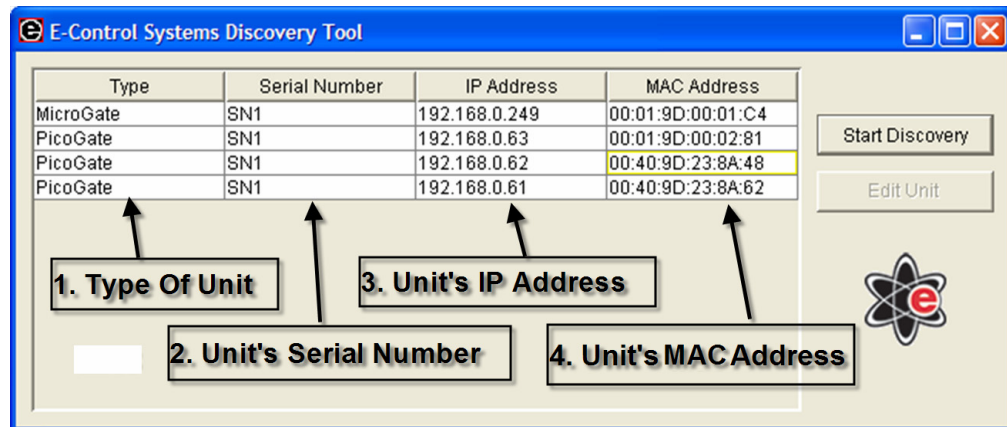

Figure 5
3. A list of all of the ECS units on the network is listed sorted by their MAC Address (see **Figure 5**, note #4). Find the MAC address of the MicroGate™ that you want to configure (the MAC address is shown on a white label on the underside of the MicroGate™). Highlight the row in the table that corresponds to the correct MAC Address/Unit you want to re-configure.